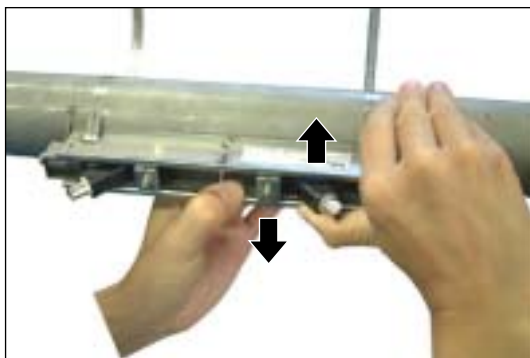

Fig. 3-40
- (2) By hand, hold the frame near the pressing fixture for a sensor unit to remove. Press the resin section which stands out of the frame of sensor unit just enough to open the frame a little (about 1 mm). At this time, the claws of sensor unit fixture are disengaged from the frame (Fig. 3-40).